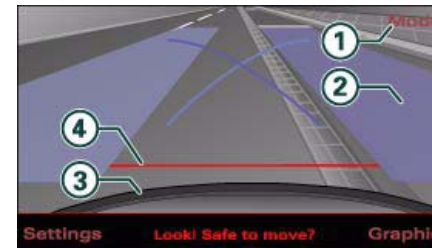
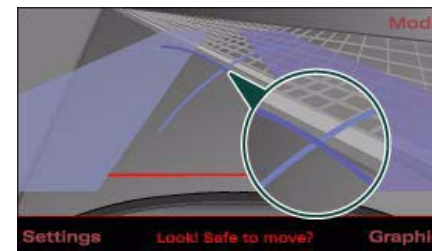

Fig. 194 MMI display: Blue area marking aligned in parking space
Fig. 195 MMI display: Blue marking touches edge of pavement
- Press the control button for **Mode** ⇒ fig. 194 ① on the MMI control console. Parking mode 2 is displayed.
- Reverse and align your vehicle in such a way that the blue area marking ② borders onto the vehicle behind or onto the parking space line marking. The blue marking is an extension of the vehicle outline and reaches about five metres to the rear of the vehicle. The long side of the blue marking should border onto the kerb. The complete blue area marking must fit into the parking space.
- Stop the vehicle as soon as the blue curve touches the kerb ⇒ *page 175, fig. 195.*
- Continue to reverse into the parking space until the vehicle is standing parallel to the kerb. ③ indicates the rear bumper. You should stop reversing, at the latest, when the red orientation line ④ is bordering on an object ⇒ ⚠! Keep a close watch on the front of your vehicle ⇒ ⚠!
If an obstacle (such as a wall) is located next to the parking space, the clearance at the side of the vehicle must be larger. Position the long side of the blue marking so that there is sufficient clearance from the kerb. The marking must not touch the kerb. You must also start turning the steering wheel much earlier. The blue curve ⇒ *page 175, fig. 195* must **not** touch the kerb - make sure there is sufficient clearance from the kerb.